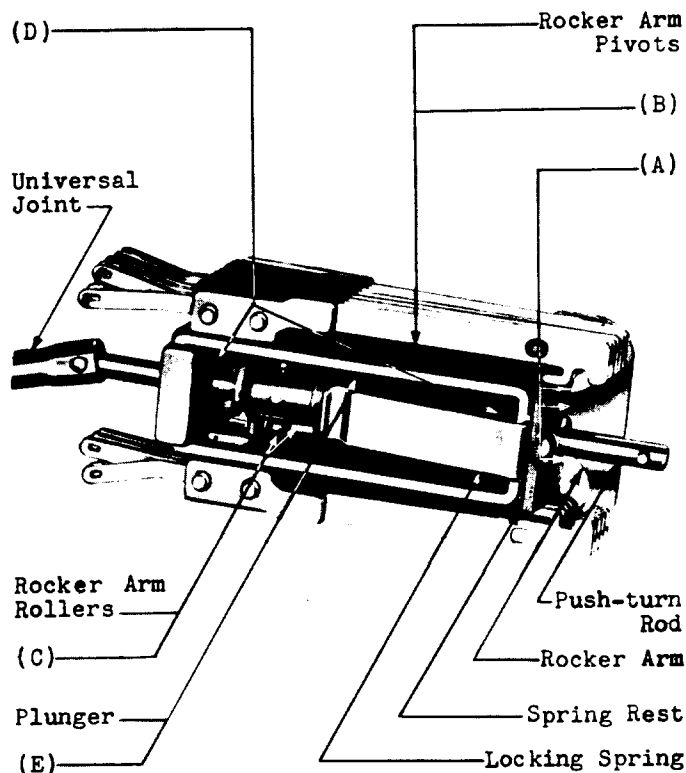

Fig. 3 - No. 580A Key - Side View
2.07 Rocker Arm Clearance - Fig. 3 (A):
(a) Rocker Arm and Rocker Arm Rollers - Figs. 3(B) and 3(C): The rocker arm and rocker arm rollers shall move freely on their pivots.
Fig. 3 (D) and 3 (E): The push-turn rod shall slide and rotate freely in its bearings, and the plunger shall rotate freely on the push-turn rod with the pressure of the locking spring removed. Gauge by eye and feel.